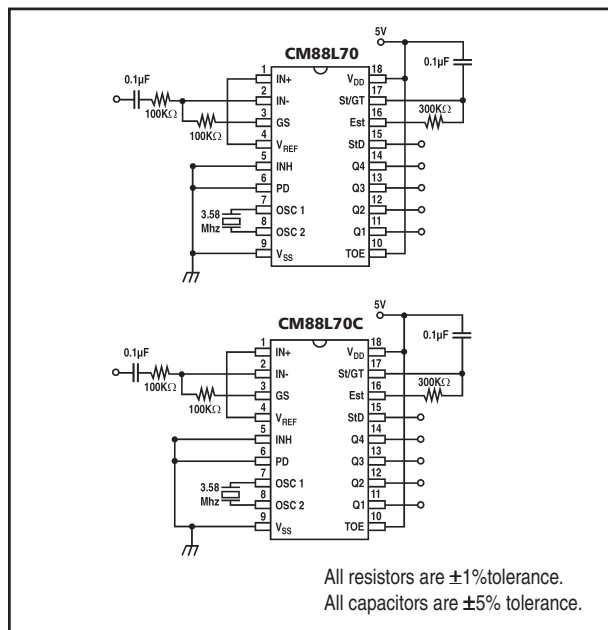

Figure 1. Single Ended Input Configuration
14. Referenced to Figure 1. Input DTMF tone level at -28 dBm.
The value of tDP is a parameter of the device and tREC is the minimum signal duration to be recognized by the receiver. A value for C of 0.1 uF is recommended for most applications, leaving R to be selected by the designer. For example, a suitable value of R for a tREC of 40 milliseconds would be 300K. A typical circuit using this steering configuration is shown in Figure 1. The timing requirements for most telecommunication applications are satisfied with this circuit. Different steering arrangements may be used to select independently the guardtimes for tone-present (tGTP) and tone absent (tGTA). This may be necessary to meet system specifications which place both accept and reject limits on both tone duration and interdigit pause.
In a single-ended configuration, the input pins are connected as shown in Figure 1, with the op-amp connected for unity gain and VREF biasing the input at 1/2 VDD. Figure 6 shows the differential configuration, which permits the adjustment of gain with the feedback resistor R5.